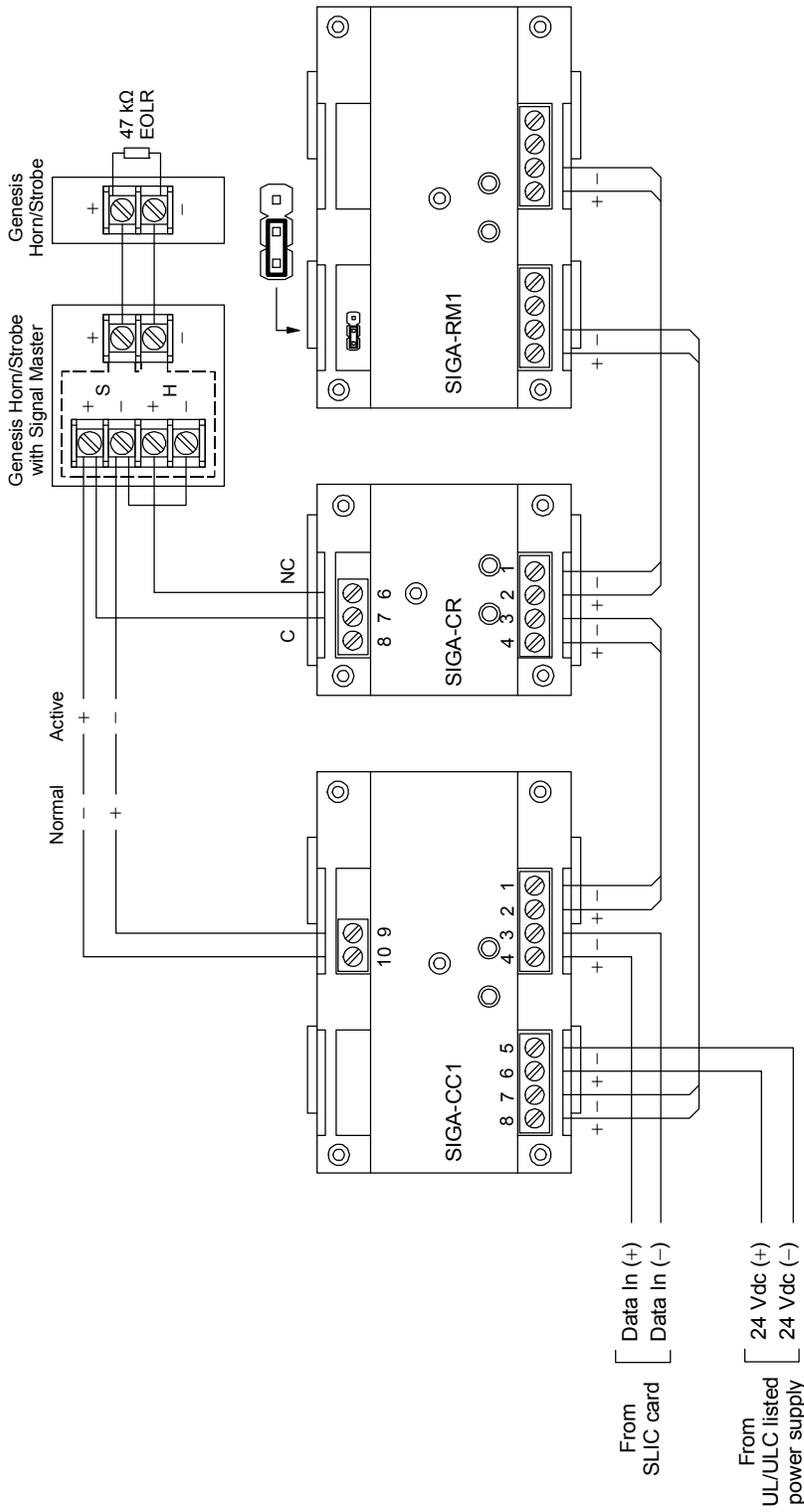

Figure 3-15: Genesis horn/strobe application wiring
1. Wire the GSA-CR and Genesis horn/strobe as shown in Figure 3-15.